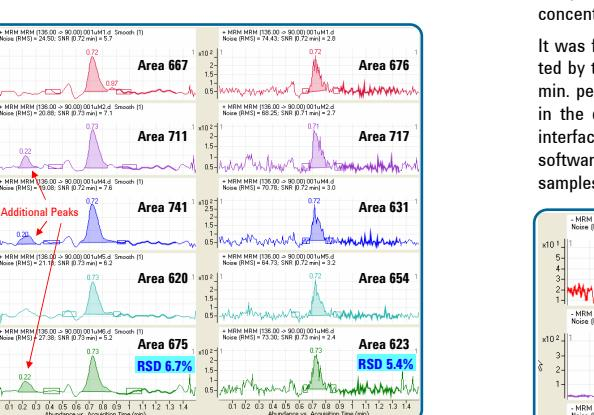

Fig 5. Peak validation with regards to merged peaks, and color-coding of peak quality.
**Step 8:** For each peak, the algorithm then tests the peak quality with regards to the following criteria, and classifies them as 'Accepted', 'Inspect' or 'Rejected' (see Fig. 5+8).
For example, if there are merged peaks to the right and left, and the height of the adjacent merged valleys exceeds 20%, a peak is flagged as 'to be inspected'; if it is above 50% the peak will be rejected (see Fig. 5).